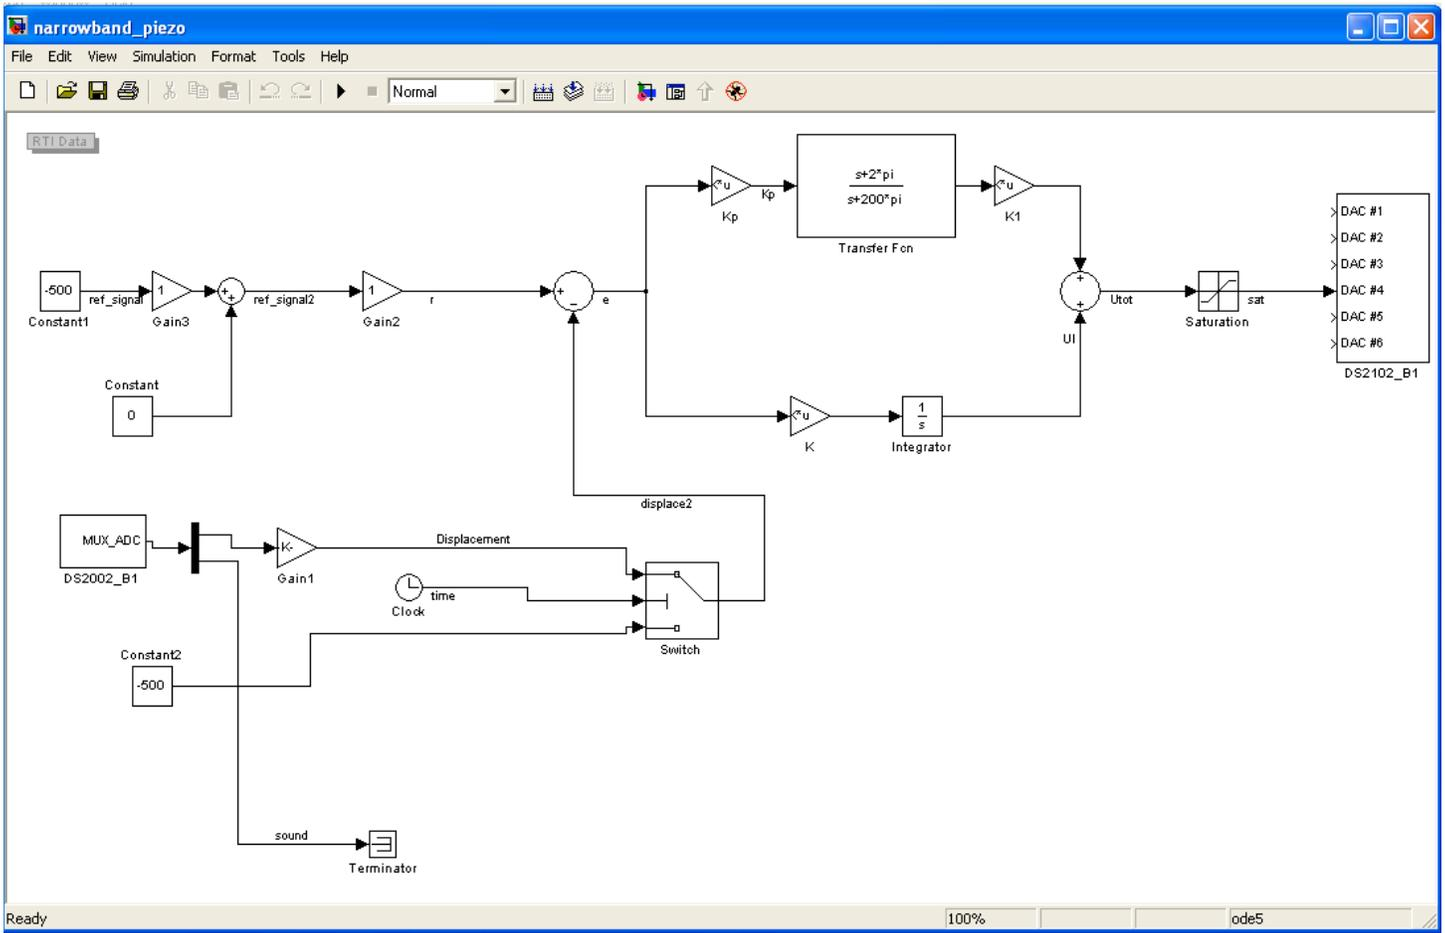
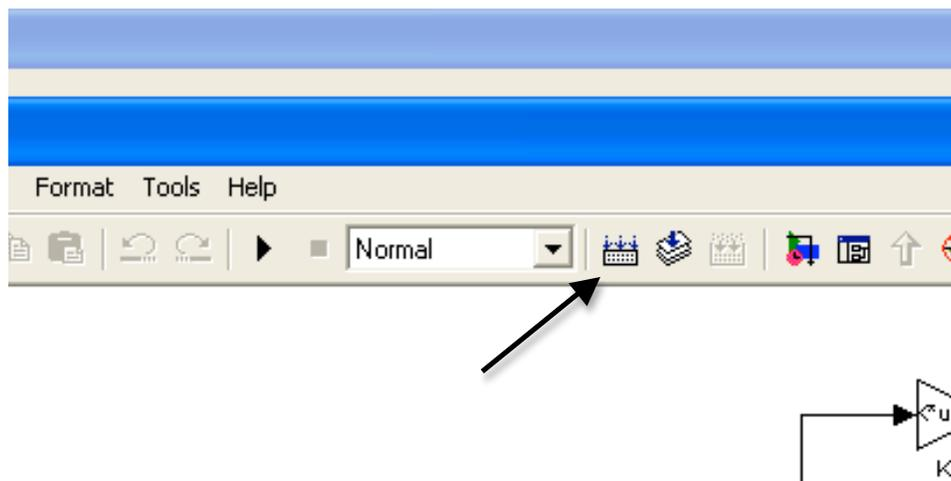

Figure 4-28: Screenshot of a Simulink diagram
Figure 4-29: Close up screenshot of the run icon
- 8) Run the Simulink file by pressing the icon looks like a rectangle that has three arrows pointing down on it. See Figure 4-28 and Figure 4-29.